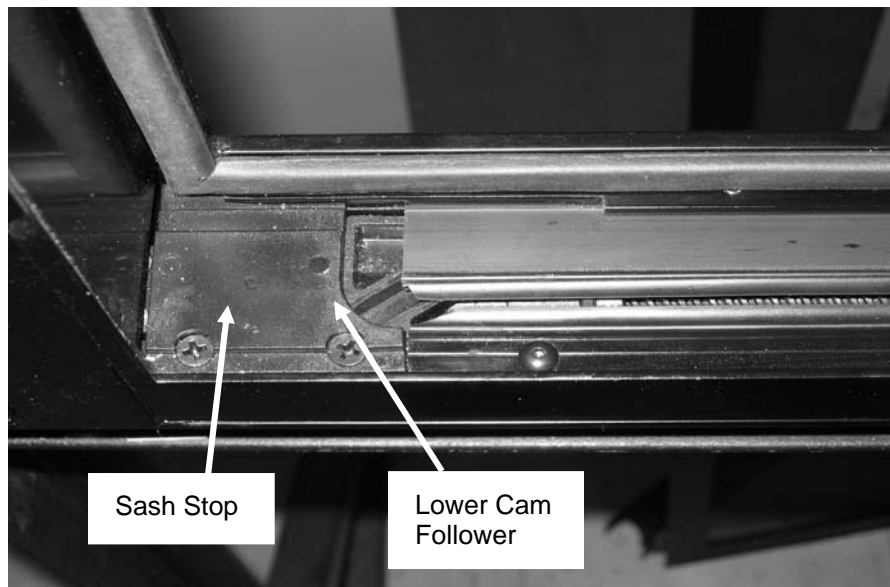

FIGURE 43: PROPER ALIGNMENT
2. Pull down on both release latches simultaneously and rotate the sash inwards approximately 10 degrees.(Figure 43)